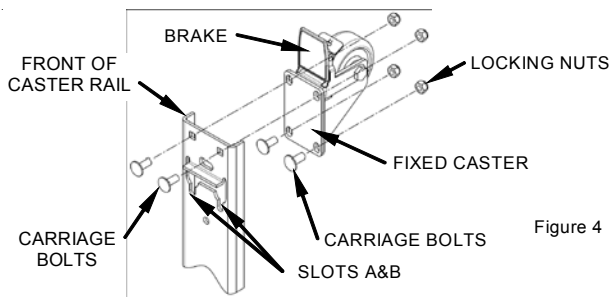

Figure 4
- Put two (2) carriage bolts through the rear (non-brake) side of the fixed caster and hold the carriage bolts loosely in place by threading several turns on each of the locking nuts. Do not tighten the bolts yet.
- Insert the two (2) front carriage bolts thru the top side of the caster rail and then thru the front holes on the caster. Attach locking nuts to each.
- Tighten all locking nuts securely using a 1/2 inch wrench (see Fig. 4).